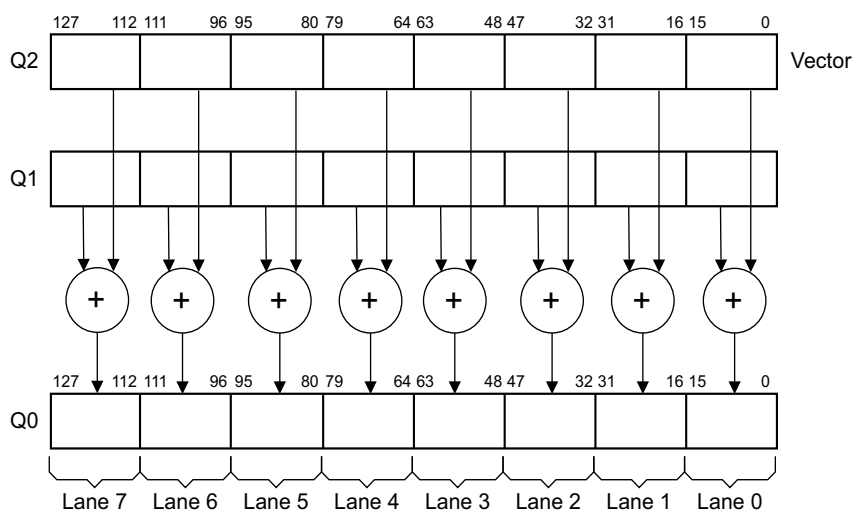

Figure 1-4 8 way 16-bit integer add operation
Figure 1-4 shows how the VADD.I16 Q0, Q1, Q2 instruction performs a parallel addition of eight lanes of 16-bit ($8 \times 16 = 128$) integer (I) elements from vectors in Q1 and Q2, storing the result in Q0.